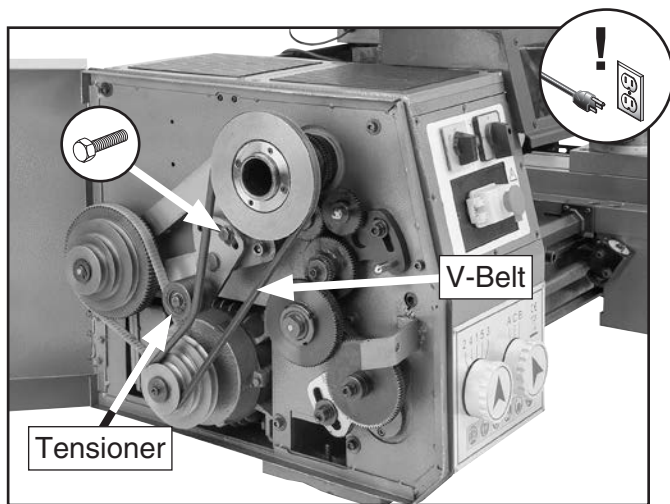

Figure 119. Tensioner bolt and V-belt.
3. Loosen tensioner hex bolt (see **Figure 119**).
4. Pivot tensioner (see **Figure 119**) against V-belt to increase belt tension, then re-tighten tensioner hex bolt.
3. Loosen tensioner bolt (see **Figure 119**) to relieve tension on V-belt.